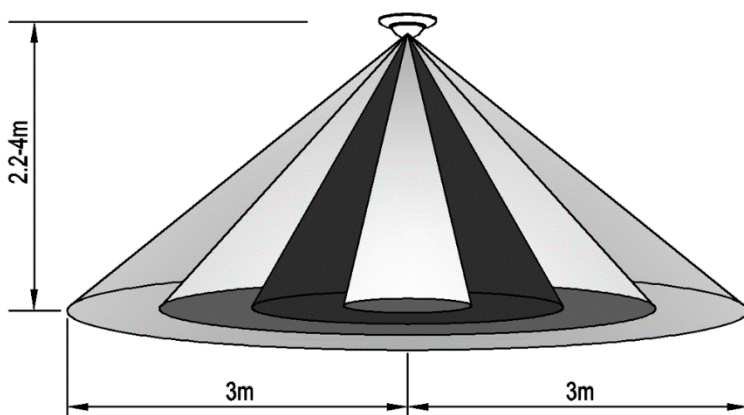

Fig. 1
- The ideal mounting height for this product is between 2.2m to 4m above the detection area. Fig.1
1. Cut an installation hole of Ø 92mm into the ceiling. Fig.1
1. Remove the trim (B) from the frame body (A). Install the trimless frame (D - not included, sold separately) and the ring (C - not included, sold separately) onto the frame body (A). Fig.1